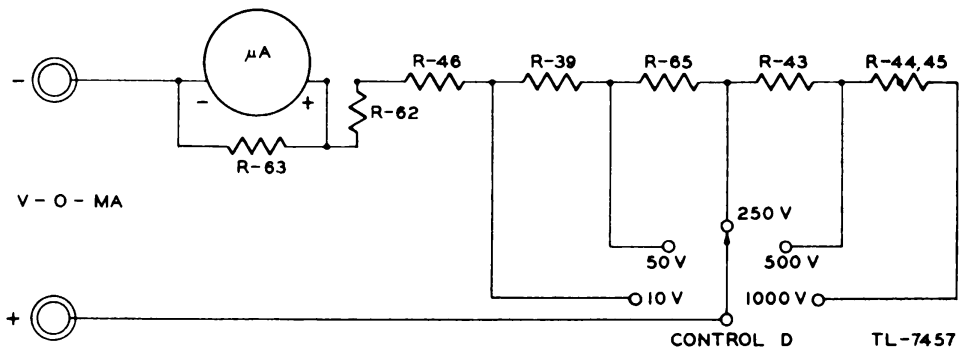

FIG. 16. MODEL 104 COMBINATION TESTER, SIMPLIFIED D-C VOLTMETER CIRCUIT
c. *Combination Tester as D-C Voltmeter (fig. 16).* With Control D set at any d-c voltage range, the correct multiplier resistors are placed in series with the indicating meter.